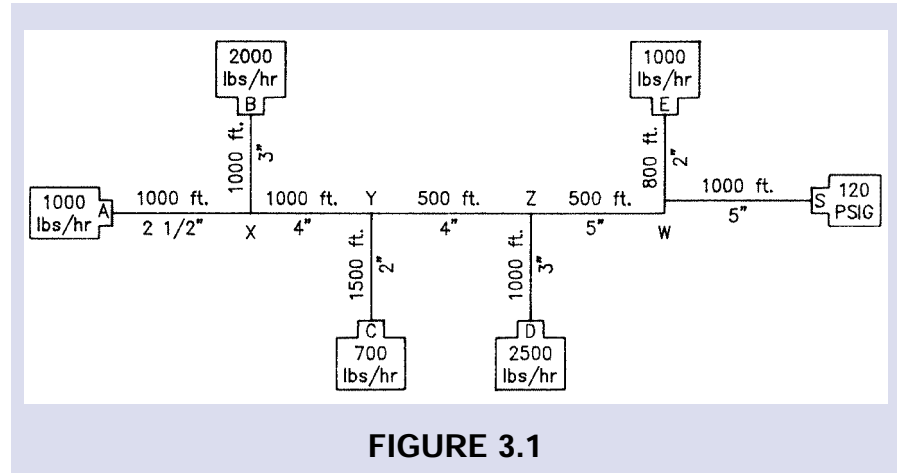

FIGURE 3.1
**EXAMPLE:** The system shown in Figure 3.1 will be used as our example. The Supply "S" at the right is 120 psig steam which is branching off to steam users A, B, C, D & E. The equipment usage is indicated in lbs/hr. The segments of piping will be addressed going backwards from the furthest end user A. The steam flow going through the pipe segment from the intersection X to equipment A is 1000 lb/hr (the usage of A). **A simple rule of thumb** for smaller steam piping (6" and below) is to keep steam velocities below 10,000 feet/minute (165 feet/second) for **short lengths of pipe only**.
Remember that pressure drop figures from the bottom of the chart are per 100 feet, so segments such as Y to C have a larger total pressure drop because the distance is longer. Similarly, the total pressure drop from Z to Y is less because the distance is only 500 feet. The values for steam flow continue to be additive for each steam user; Z to Y is 3700 lb/hr (61.7 lb/min), W to Z is 6200 lb/hr (103.3 lb/min) and S to W is 7200 lb/hr (120 lb/min). Pipe sizes in Figure 3.1 are given for your reference and provide the user with reasonable pressure drops in the steam lines.